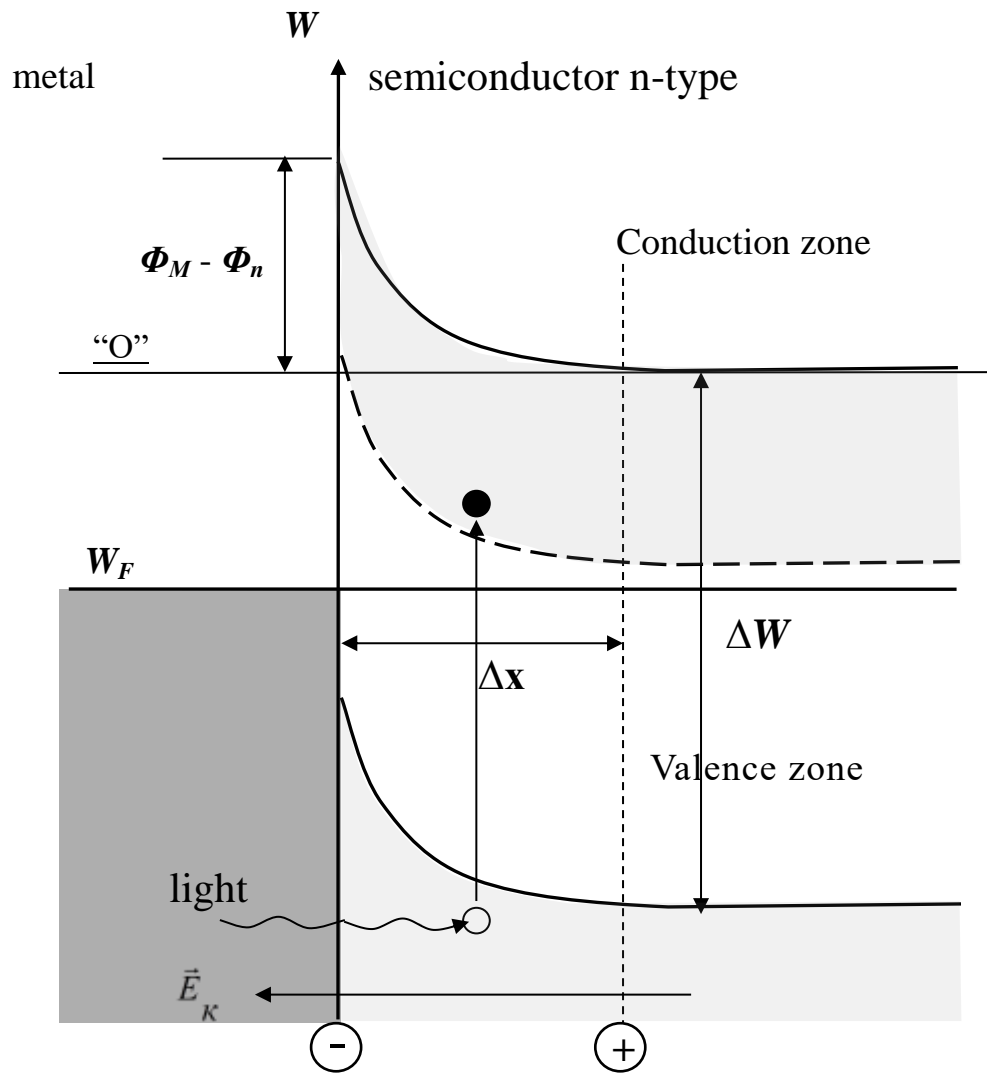

Fig. 6.3.3
In the presence of a luminous flux, additional charge carriers (photoelectrons and photo holes) appear in the  $K2$  interlayer, reducing the contact potential difference of  $U_{K2}$  so that the photo-EMF according to (Eq. 6.3.1) becomes non-zero. This decrease occurs at the contact  $K2$ , whose energy band structure is show in Figure 6.3.3.
Locking layer  $\Delta x$  (Fig. 6.3.3) for contact metal-n-type semiconductor is formed when work function (which gives the minimum energy required to remove an electron from the surface of the metal) for metal  $\Phi_M$  is bigger than work function to exit from n-type semiconductor  $\Phi_n$ . Thus arises equilibrium external potential difference  $U_{K2}$ :
This means metal has redundant negative charge, n-type semiconductor-positive, appears contact electric field, electric field vector  $\vec{E}_K$  showed on Figure 6.3.3.
Photon pictured by wavy line with arrow (Fig. 6.3.3) gets in locking layer through translucent metal and cause inner photo effect. So, electron is going from valence zone (VZ) to conduction zone (CZ). This leads to appearance of two extra charge carriers: hole in VZ and electron in CZ. Under the action of electric field electron goes to semiconductor zone, and hole goes accordingly to metal zone. This compensates for the excess charges that have arisen during the metal-semiconductor contact, and with it the contact potential difference  $U_{K2}$ .